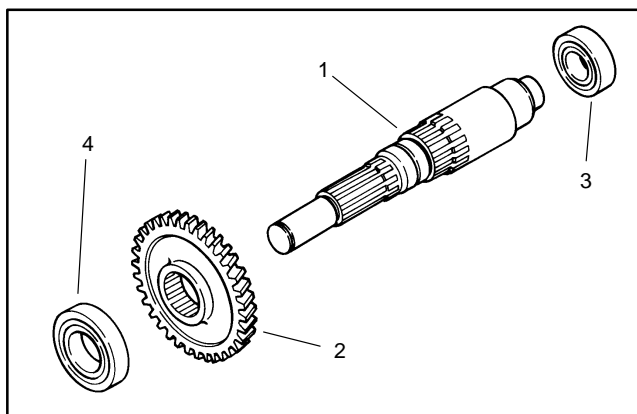
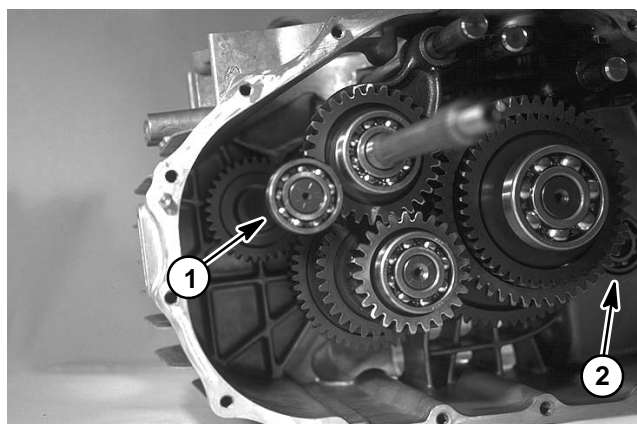

Figure 28
Figure 29
8. 4WD UNITS ONLY: remove front drive shaft and 41T gear from the gear case. Remove bearings from gear case and center plate (Fig. 28 and Fig. 29).